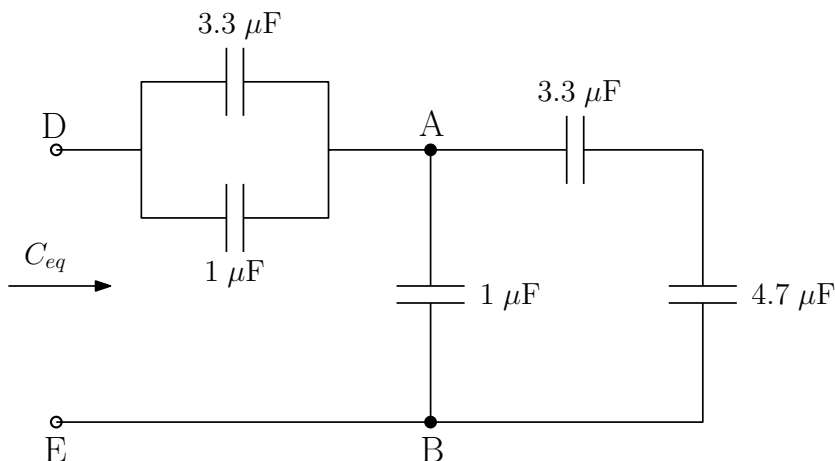

Figure 4.2: The equivalent capacitance circuit.
4. Now, let's calculate the equivalent capacitance C_{eq} of the circuit shown in Figure 4.2. First, calculate the equivalent capacitance C_{AB} across terminals A and B (that is, the equivalent capacitance of the loop containing the 3.3 μF , 4.7 μF , and 1 μF capacitors). Also calculate the equivalent capacitance C_{DA} across terminals D and A. Finally, calculate the equivalent capacitance of C_{eq} of the entire circuit.
5. If a DC voltage V is applied across terminals D and E of Figure 4.2, what is the voltage across each capacitor? To calculate these voltages you will have to make use of C_{eq} and equation 4.1.
1. Components such as capacitors are built to be within a certain tolerance of their stated values. For example, you may find that a $1\ \mu\text{F}$ capacitor has a capacitance of only $0.98\ \mu\text{F}$. Measure the capacitance of each capacitor required for building the circuit in Figure 4.2. Record both the measured values and the stated values. [LR 5]